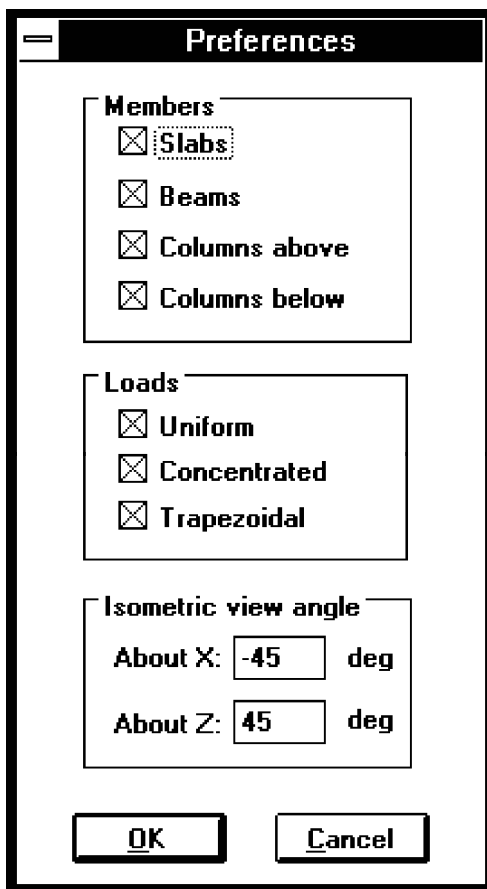

Figure 4-26—The Preferences dialog box
- From the **View** menu, select **Preferences**. The dialog box of Figure 4-26 appears.